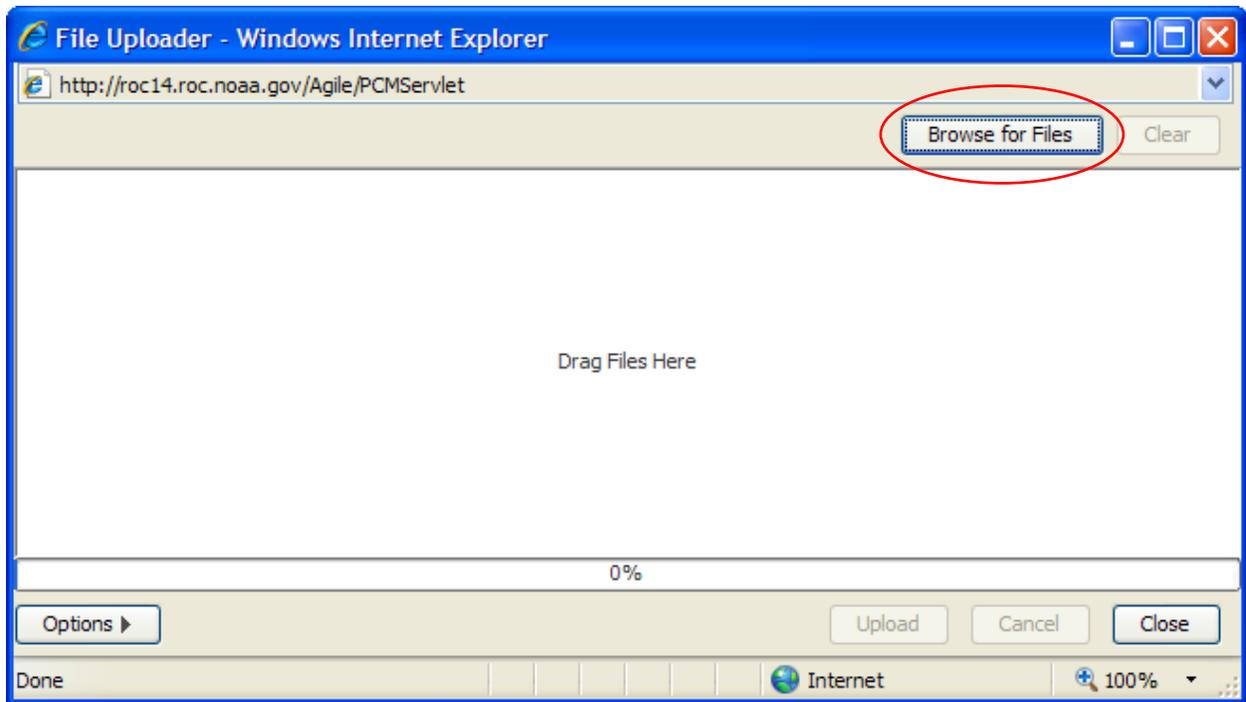

Figure 43: File Uploader and Browse for Files button location.
- i. Click the **Add** button  located on the Attachment tab's toolbar (Figure 42). The **File Uploader** box will appear (Figure 43).
- j. Click the **Browse for Files** button (Figure 43).